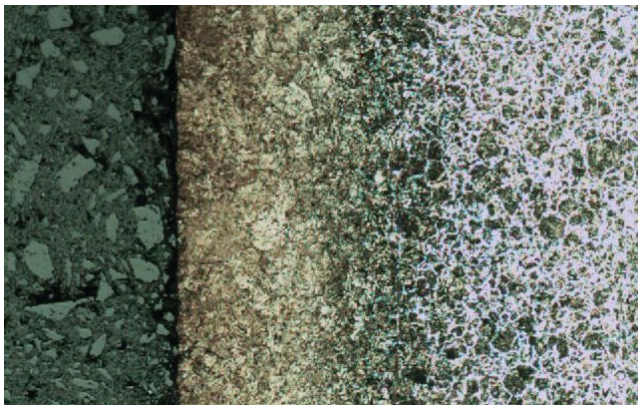

Figure 1. Total case-depth determination by Ms point method^[4]
- **Total case depth:** The depth at which the carbon content of the steel is 0.04% above the core carbon content of the steel. In other words, total case depth is the point at which differences in the chemical or physical properties of the case and core no longer can be distinguished (Fig. 1). Many metallurgists determine the total case depth by (nital) etching a steel sample and measuring the zone affected by the etchant.